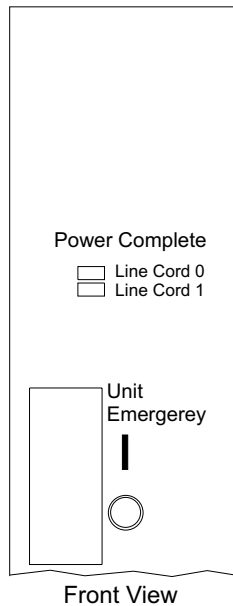

Figure 104. 2105 Model 100 Rack Operator Panel Indicators (t008851m)
- ___ 1. Set the Unit Emergency switch, see Figure 104, to On (|, up) on each 2105 Model 100.